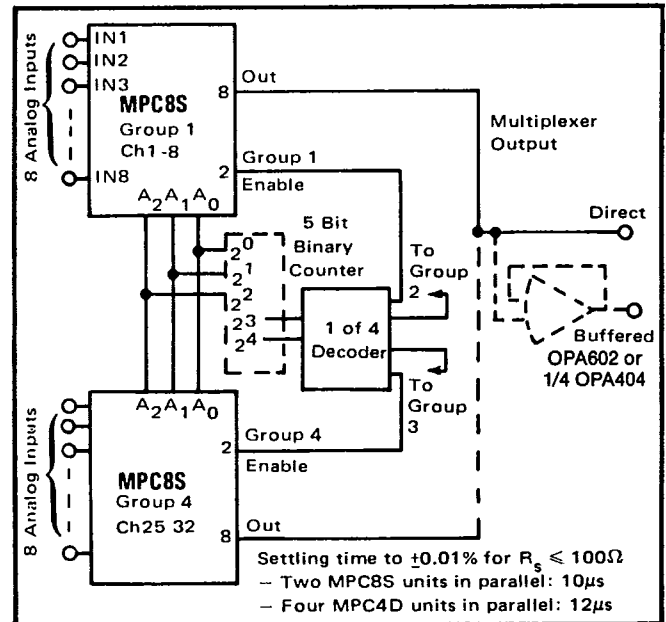

FIGURE 5. 32-Channel, Single-Tier Expansion.
- For 20V between switched channels, RSOURCE = 1000Ω. See Figure 5 for settling time versus source impedance (RS).
The ENABLE input, pin 2, is included for expansion of the number of channels on a single node as illustrated in Figure 5. With ENABLE line at a logic 1, the channel is selected by the 2-bit (MPC4D) or 3-bit (MPC8S) Channel Select Address (shown in the Truth Tables on Page 2). If ENABLE is at logic 0, all channels are turned OFF, even if the Channel Address Lines are active. If the ENABLE line is not to be used, simply tie it to +V supply.
Up to 32 channels (4 multiplexers) can be connected to a single node, or up to 64 channels using 9 MPC8S multiplexers on a two-tiered structure as shown in Figures 5 and 6.